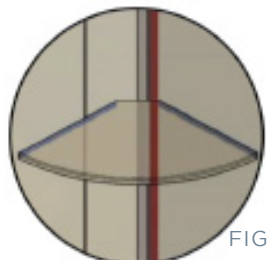

FIG.34
- After 24-48 hours remove stabiliser blocks (FIG 34).